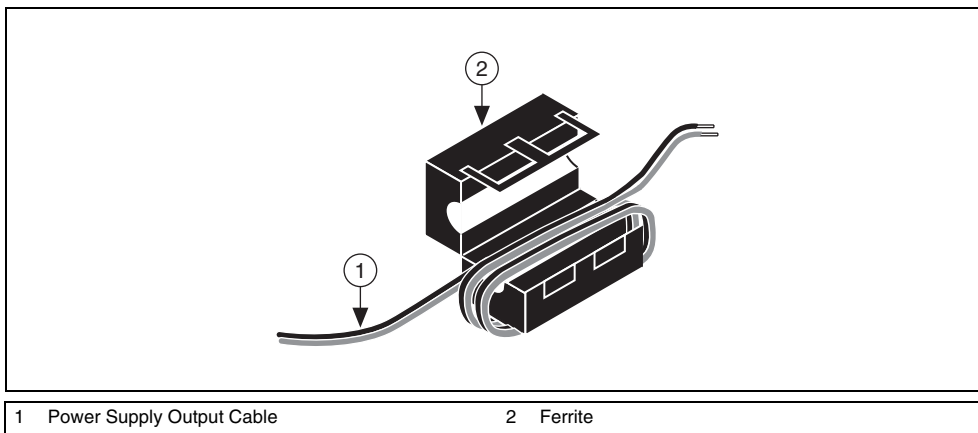

Figure 4. Installing a Ferrite Connector on the Power Supply Cable
- (Optional) To suppress electromagnetic interference, install a ferrite on the power supply cable as close to the connection to the NI 8255R as possible. Wrap the power supply cable around the ferrite two times, as shown in Figures 4 and 5.